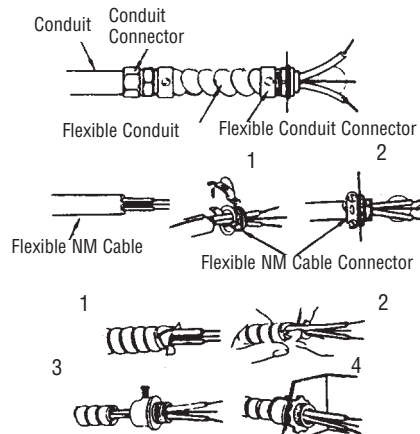

Figure 2 - Connectors, cable, and hardware used to wire the UH-524TA
**NOTE:** For certain applications, conduit may be required (see Figure 2). Check local electrical codes. If wiring is run in conduit, be sure there is enough flexible conduit to allow the heater to be turned if necessary.
2. Attach the cable connectors to the unit (See Figure 2) and slide the 10 gauge wire through the cable connector. Pull enough wire through the connector to work with when making the connections.